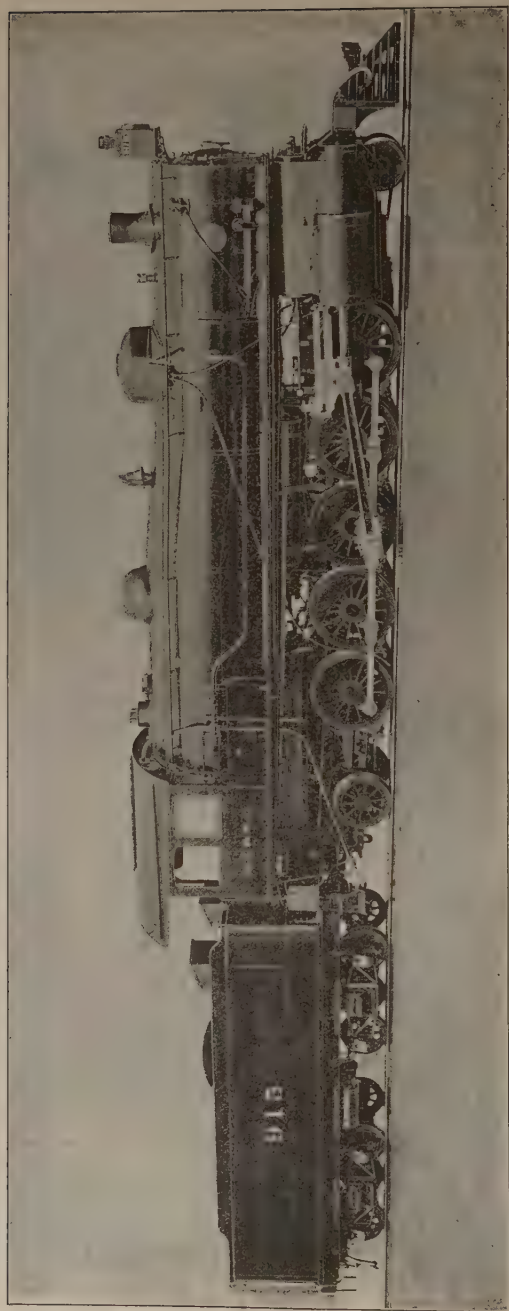
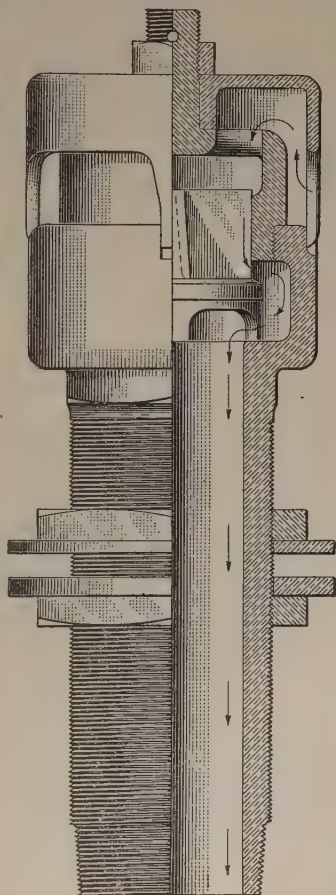

FIG. 10
FIG. 11
25. General Arrangement.—A tandem compound built by the Baldwin Locomotive Works is shown in Fig. 10, from which a good idea of the arrangement of the cylinders, etc. can be had. This engine is not fitted with automatic by-pass valves, but has a starting valve that acts as a by-pass when open; it also has relief valves in the cylinders and a large one in the dry pipe; the latter,
extending through the smokebox about midway between the stack and the sandbox, as shown in Fig. 10. This relief valve, Fig. 11, admits air into the dry pipe, thence through the steam pipes into the steam chests when the engine is drifting.